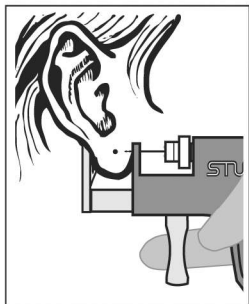

Figure 10
1. Place the ear between the clasp retainer and the stud, carefully aligning the point of the stud with the mark on the ear. While maintaining proper alignment, slowly squeeze the trigger until the ear is held securely by the instrument (Figure 10).